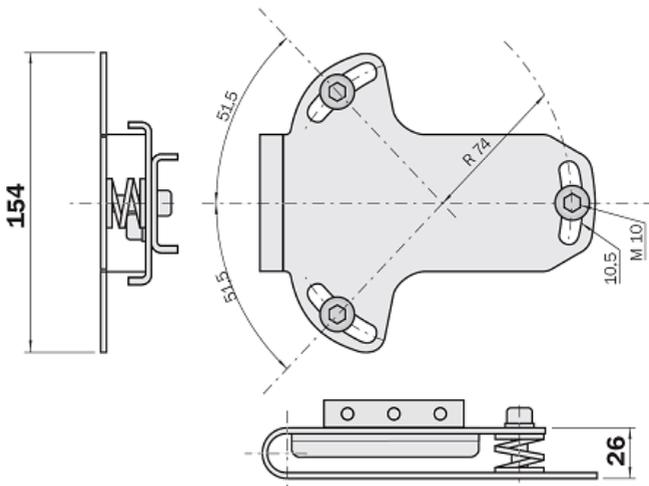

Figure 9: Mounting the TPCC
NOTE - Please note that the mounting screws for installing the TPCC in the customer's facility are NOT part of the delivery, since the mounting screws depend on the installation and may vary. However, the TPCC can generally be mounted on the clamping and alignment bracket using three M10 screws (see Figure 9 in section 2.3).
1. The clamping and alignment bracket is already attached to the TPCC. To mount the TPCC with the alignment bracket, drill 3 holes into the mounting surface (diameter (\varnothing) 8.5 mm) to hold the clamping and alignment bracket (shown in Figure 9).
3. Insert screws, washers and spring rings (not included) and lightly tighten the screws, as shown in Figure 9.
1. The clamping and alignment bracket is already attached to the TPCC. To mount the TPCC with the alignment bracket, drill 3 holes into the mounting surface (\varnothing 10.5 mm) to hold the clamping and alignment bracket (shown in Figure 9).